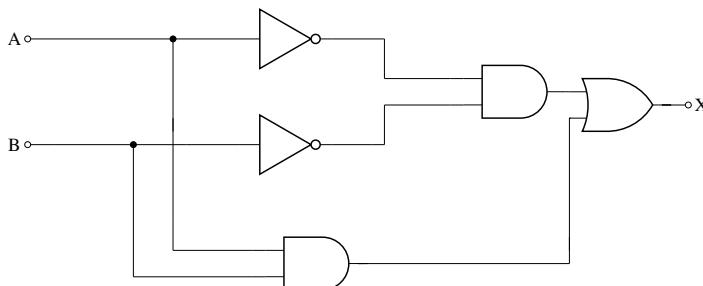

Fig. 3.16
33. A and B are logical inputs and X is the logical output shown in Fig. 3.16. The output X is related to A and B by